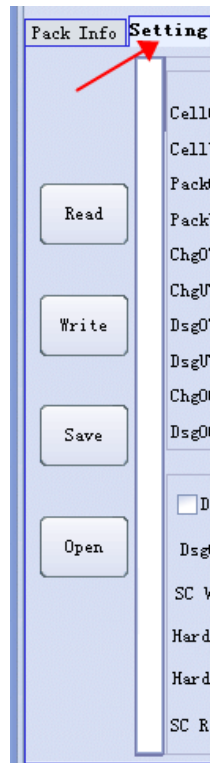

Figure 6
1. **Read parameters:** read the parameters from the protection board , and then displayed in the PC software, In the process of reading, progress bar will show the progress of real-time read such as Figure 6.